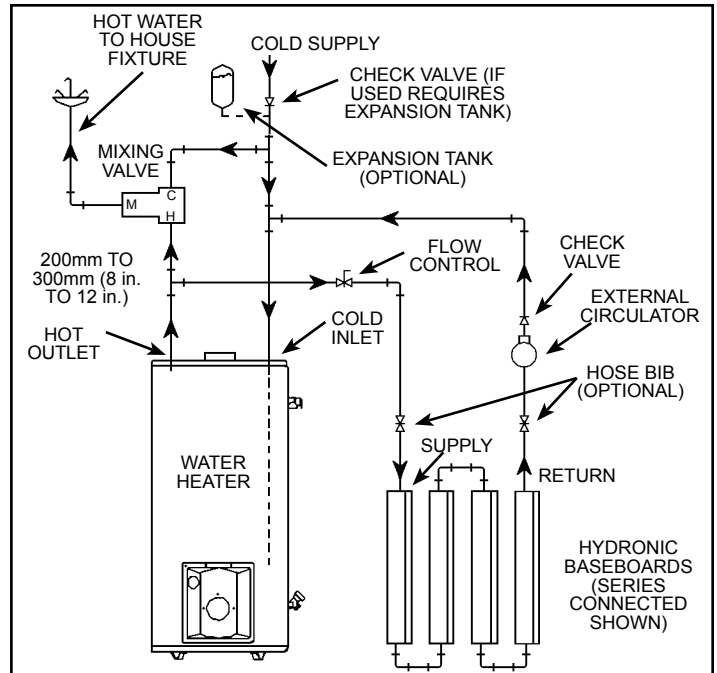

Figure 18. Combo Heating - Baseboard
- A hydronic baseboard (finned tube) loop (Figure 18).